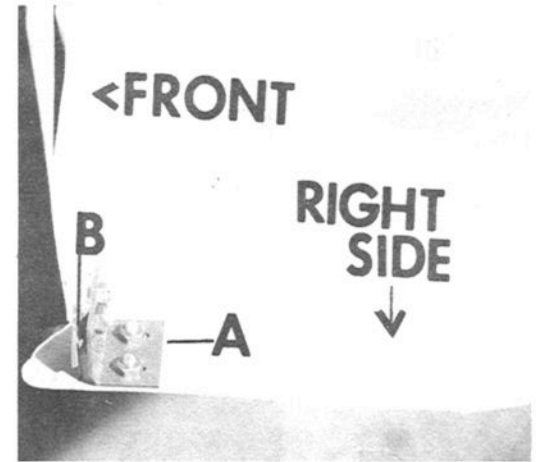

FIGURE 2
2. A Pivot Plate (A in Figure 2) and Clip Spring (B in Figure 2) are used on each side of Hood (Locations marked by holes on each side near front) to hold Hood to Battery Mount. Figure 2 shows these parts installed on right side of Hood.
Bolt Clip Spring to side of Pivot Plate with holes before bolting Pivot Plate to Hood. Be sure Clip Spring is attached so that when complete assembly is bolted to Hood, curved portion of Clip Spring points downward, as shown in Figure 2.